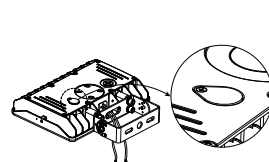

Figure 30
Step 3: Once the color temperature is confirmed, return the fixing piece back to the original position and tighten the screw to lock the fixing piece(Figure 30).